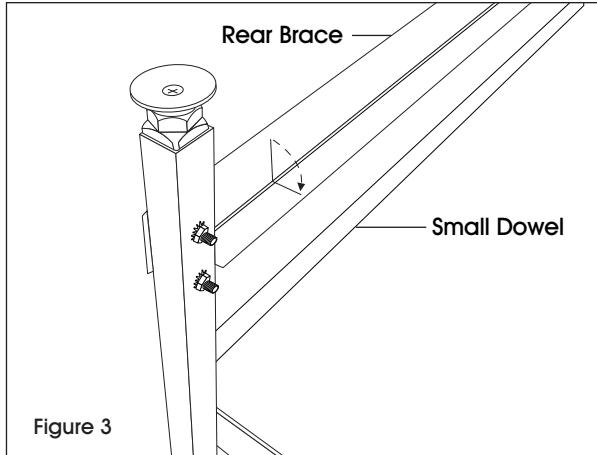

Figure 3
- Next, attach the rear brace extending from the back of one leg to the other using 1/4 - 20 x 2" hex bolts. Secure with washer and nut. (See Figure 3)